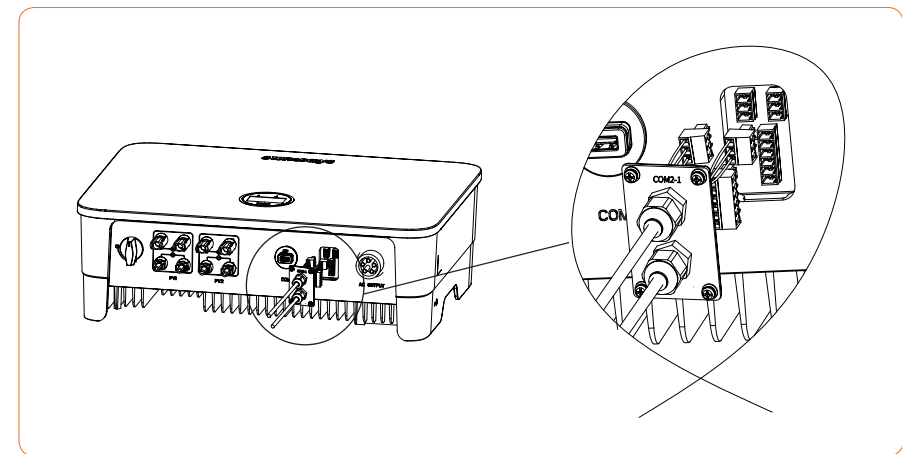

Figure 4-29
- ③ Insert the cable to the port in the 3/6pin connector and fasten with a screwdriver.
- ④ Insert the 3/6pin connector into the 3/6pin connector inside the inverter, and screw the COM2 plate back with a cross screwdriver, as shown in Figure 4-29: